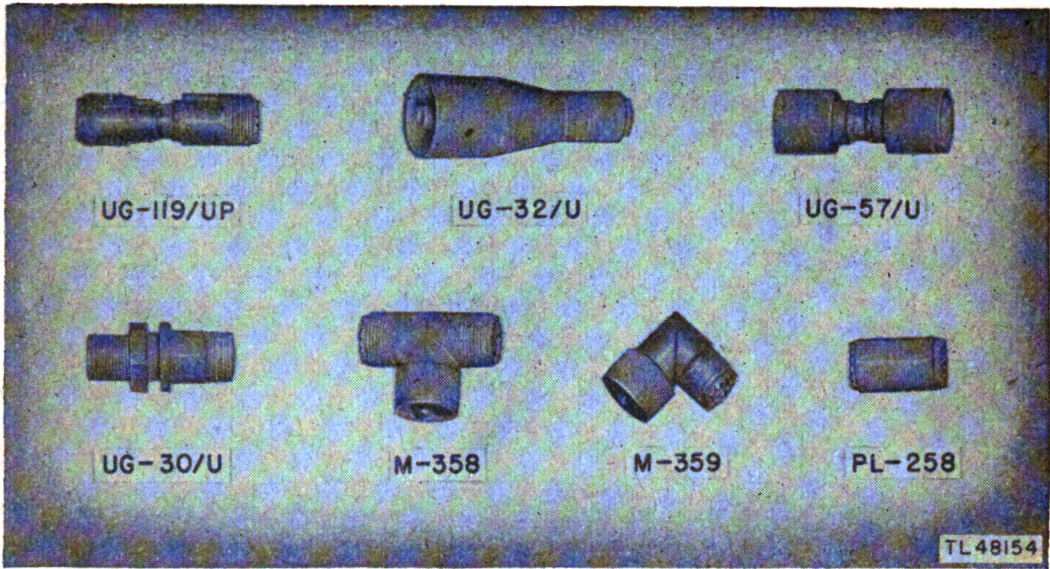

Figure 18. Adapters and plugs.
a. Adapter M-358 (fig. 18) is a T-type connector used to connect Dummy Antenna TS-208/MPM to the receiver of Radar Set AN/TPX-4 for alignment purposes.
b. Adapter M-359 (fig. 18) is a video-type, male-to-male, right-angled connector used with Adapter M-358 to align the receiver of Radar Set AN/TPX-4. It connects Socket SO-239 and Plug PL-259. The male portion of the adapter has a coupling unit to fit Socket SO-239.
c. Radio Frequency Jack UG-30/U (fig. 18) has a type N receptacle at each end. It is used to connect two r-f coaxial cables for increased length.
d. Plug PL-258 (fig. 18) is a video-type connector with two female sockets. It fits the male portion of Plug PL-259 and permits interconnection of cables fitted with Plug PL-259.
f. Crystal Adapter UG-119/UP (fig. 18) has a type N plug on one end and Socket SO-239 on the other end. The adapter serves as a holder for Tube 1N21B, used with Signal Generator TS-155B/UP.
g. Radio Frequency Coupling UG-32/U (fig. 18) is a coaxial connector used to couple the 50-ohm weatherproof type N connector to a $\frac{7}{8}$ -inch rigid transmission line.
h. Radio Frequency Adapter UG-57/U (fig. 18) is a splicing adapter, male both ends, for use with a type N connector. The adapter is weather-proof and has an impedance of 50 ohms.